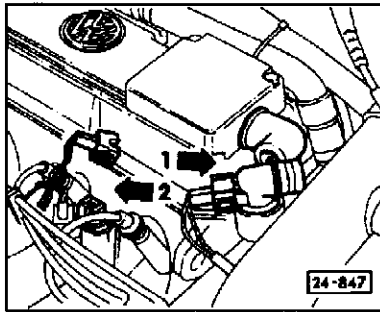

fig. 1
1. Remove the upper drive belt cover by pulling back the clips at the top of the cover and lifting the cover up and out. Remove the idle stabilizer valve and hose (if equipped) to facilitate valve cover/camshaft removal and installation. Remove the two braces running from the valve cover to the intake manifold. Disconnect the crankcase ventilation hose from the emission control valve (fig 1, disregard arrows.) Disconnect the electrical connector at the fuel after-run control valve. Remove the eight nuts holding the valve cover down. Lift off valve cover while taking care not to damage the rubber valve cover gasket.
7. Check to see if the dot on the inside of the cam sprocket lines up with the upper edge of the camshaft drive belt inner cover (fig. 1.) If not, rotate cam slightly until it does.
4. Your crankshaft vs. intermediate shaft timing should already be close if you put the motor at TDC before beginning your cam install. Rotate crankshaft (by hand using a wrench or socket on the end of the crank) and intermediate shaft until the dot from the intermediate shaft is visible through the "V" in the crankshaft pulley (fig 1.) **Caution:** Rotate the crankshaft the least amount necessary to align the marks. Since the drive belt is not installed, there may be piston to valve interference if you try to rotate the crankshaft too much.
5. Check camshaft timing mark, make sure that the dot on the inside of the cam sprocket is lined up with the camshaft drive belt inner cover (fig 1).